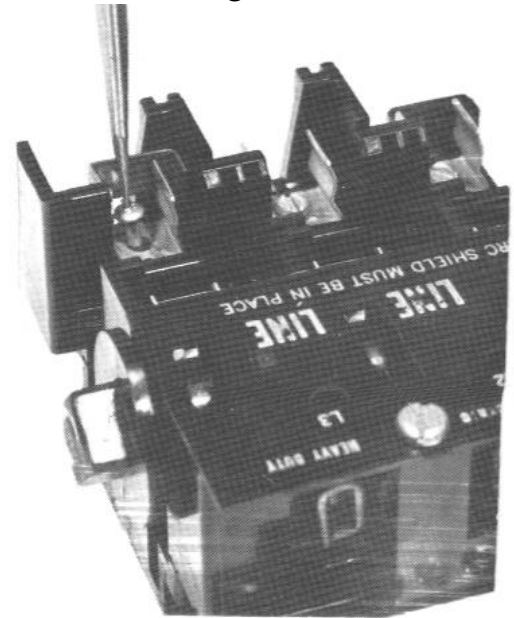

Figure 2
2. attach the Fuse Clip and Bracket assembly to the Load Base by inserting Drive Rivet with screw driver or similar tool as shown in Figure 2.